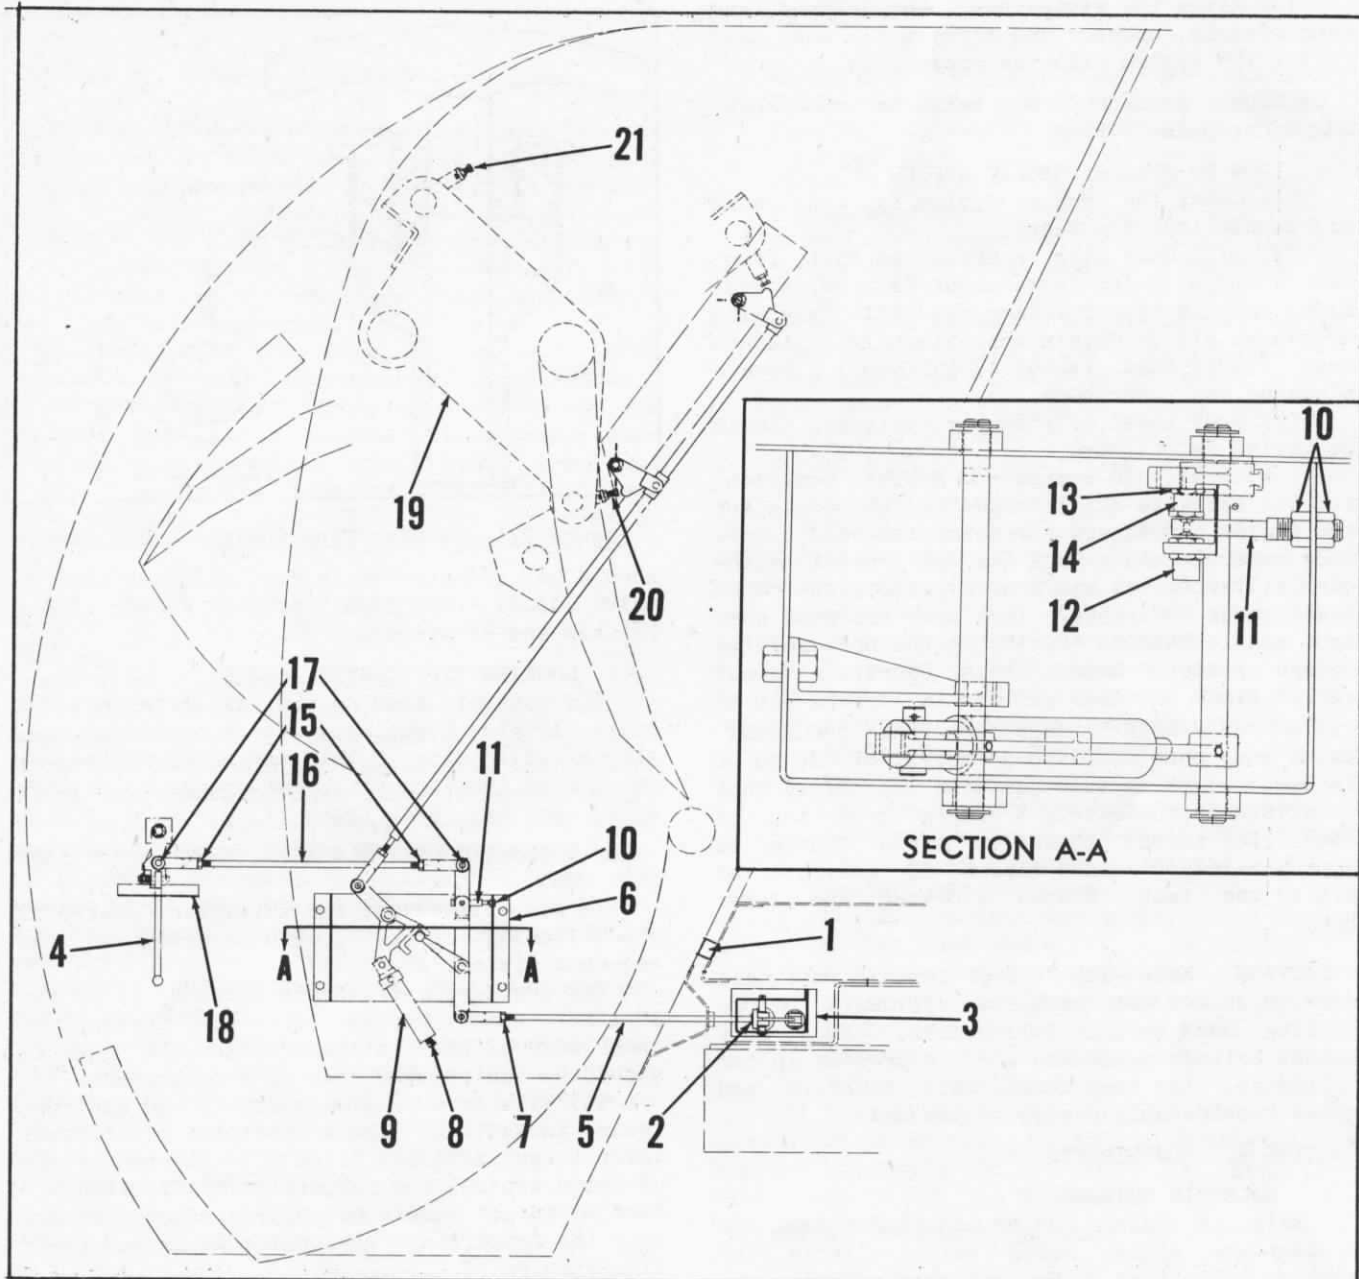

Figure 28. Automatic Controls Adjustment
d. AUTOMATIC CONTROLS ADJUSTMENT (see Figure 28)
(a) Adjust 47A812. Hex. Hd. Capscrew (Figure 28, Item 20) located on bottom of right bell crank (Figure 28, Item 19) so that controls return to NEUTRAL when packer plate tip is approximately $\frac{1}{2}$ " from its innermost position (end of packing cylinder stroke.) This can be checked by placing control handle in PACK position, after unit has completed a cycle, and observing the movement of the packer plate tip.
(2) Now check stroke of packing cylinders as follows: At the end of the "IN" stroke, as controls shift from RETRACT to PACK, there should be approximately $\frac{1}{8}$ " of piston rod showing between oil seal in the cylinder head and the piston rod clevis. Check both cylinders and adjust 47A812 capscrew (Figure 28, Item 21) in top of right hand bell crank (Figure 28, Item 19,) in or out so that $\frac{1}{8}$ " dimension is satisfied on one or both cylinders.
(1) On the screw and nut type tailgate clamp the only adjustment is tightening the nuts. These nuts should be drawn up snug and a visual check should be made to be certain that the 1" x 1" x 3" spacer blocks (Figure 28, Item 1) on the tailgate below the gasket, are tight against the rear body crossmember.